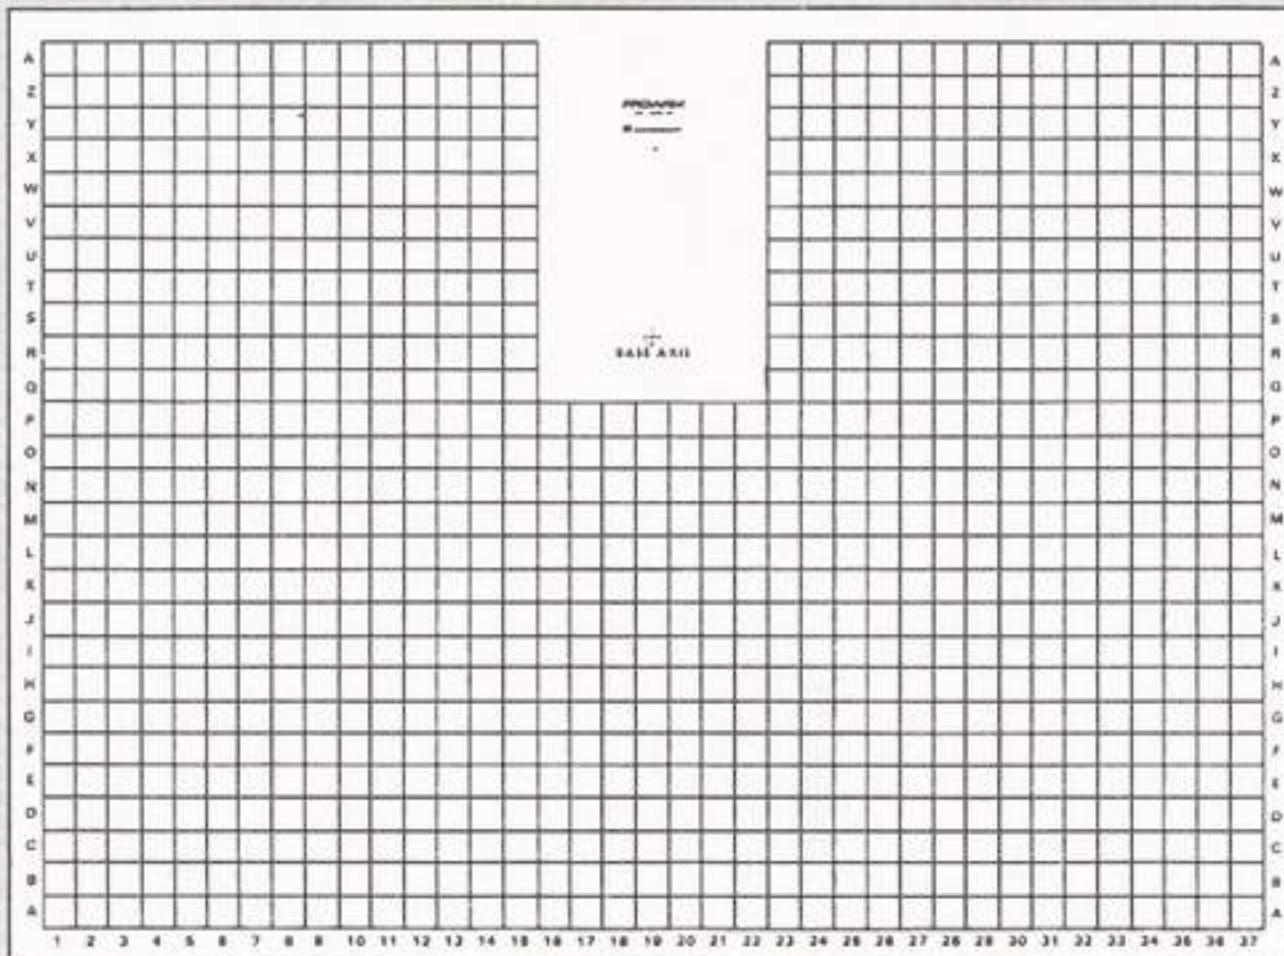

Fig. 82: Working Space Chart—Vertical Work Envelope
- o. Copy the vertical work envelope from the grid sheet onto the Working Space Chart in Fig. 82.